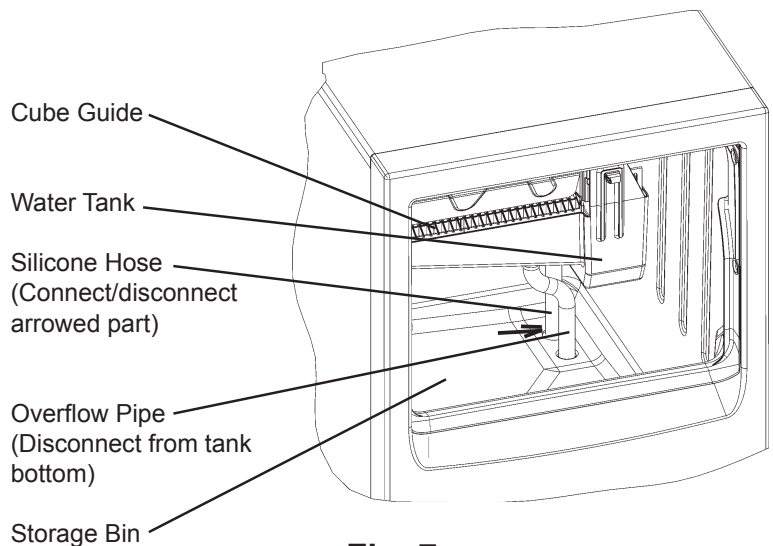

Fig. 7
- 10) Disconnect the silicone hose to drain the water. See Fig. 7.
4) Disconnect the silicone hose to drain the water. See Fig. 7. Reconnect the silicone hose back in its correct position after all of the water has drained.
7) Disconnect the silicone hose to drain the water. See Fig. 7. Reconnect the silicone hose back in its correct position after all of the water has drained.
11) Disconnect the silicone hose to drain the water. See Fig. 7. Reconnect the silicone hose back in its correct position after all of the water has drained.
- 3) Open the door. Disconnect the silicone hose to drain the water. See Fig. 7.